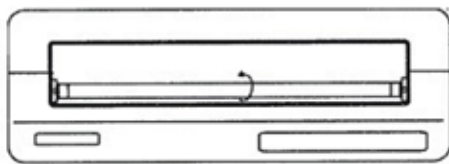

Figure 7
3. Rotate the UV-C lamp one-quarter turn, top to rear, (figure 7) and remove lamp.